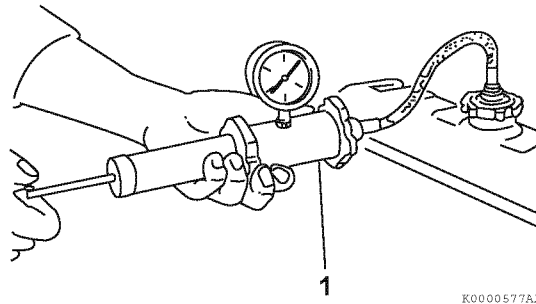

Fig.40-7
- 1 - With the radiator properly filled with coolant, install a cooling system tester (1, Fig.40-7).